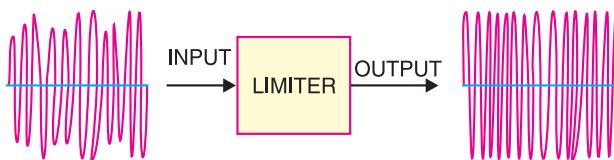

Fig. 16.22
- 3. Limiter Stage.** The output from IF stage is fed to the limiter. This circuit is an IF amplifier tuned to 10.7 MHz but its main function is to remove AM interference from the FM signal. Fig. 16.22 shows how the limiter removes AM interference from the FM signal. The input is an FM signal, but it has different amplitude levels because of AM interference has been added. However, the limiter circuit keeps the output level constant for different input levels.